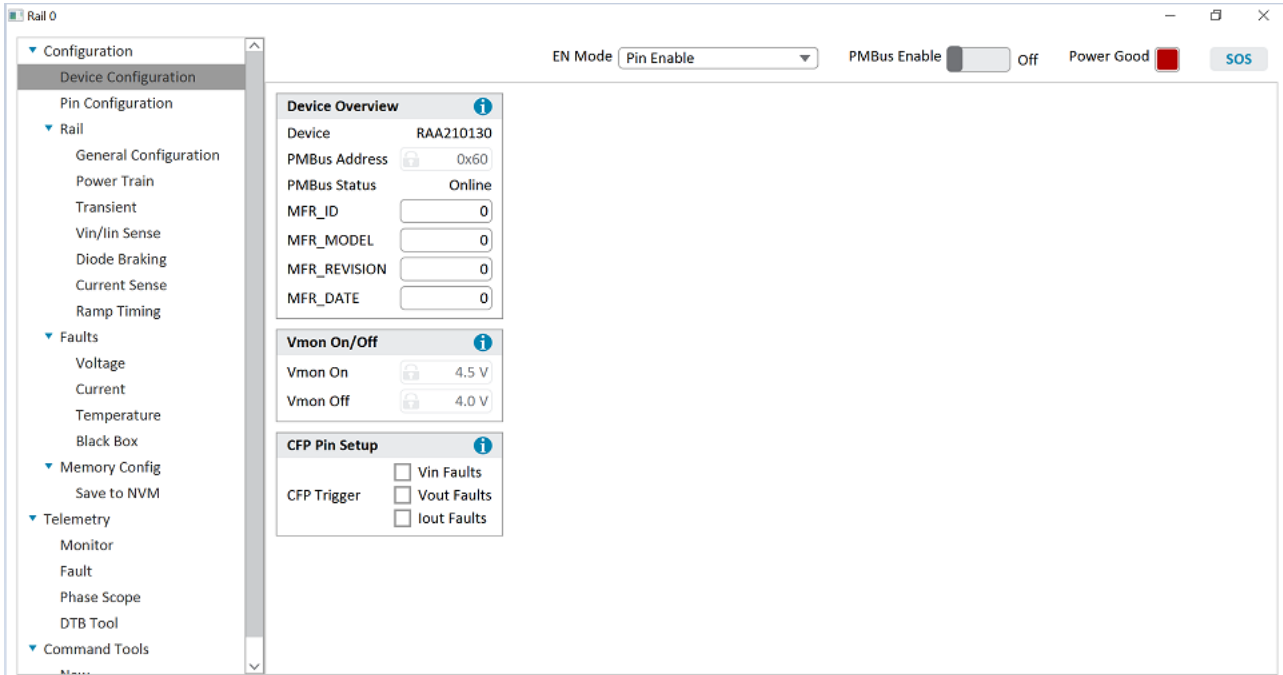

Figure 5. PowerNavigator Configurations Page.
10. Double-click on Rail 0 box in the middle panel of the page. A configurations page shown in Figure 5 appears. The items on the left panel can be selected and its associated parameters modified according to your requirements.